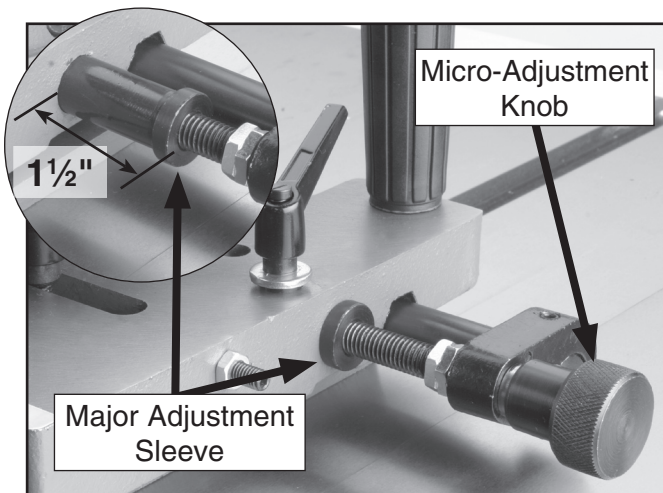

Figure 12. Setting major adjustment sleeve.
10. Rotate the micro-adjustment knob until the major adjustment sleeve extends $1\frac{1}{2}$ " out of the jig, or approximately halfway between the knob and the side of the jig (see **Figure 12**).